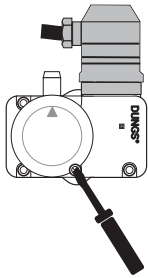

Figure 4.2 Unscrewing the hood
7. Unscrew the hood covering the dial and make sure that the low pressure switch is set at 18 mbar. If necessary, set the pressure using the dial, see *Figure 4.2* and *Figure 4.3*.